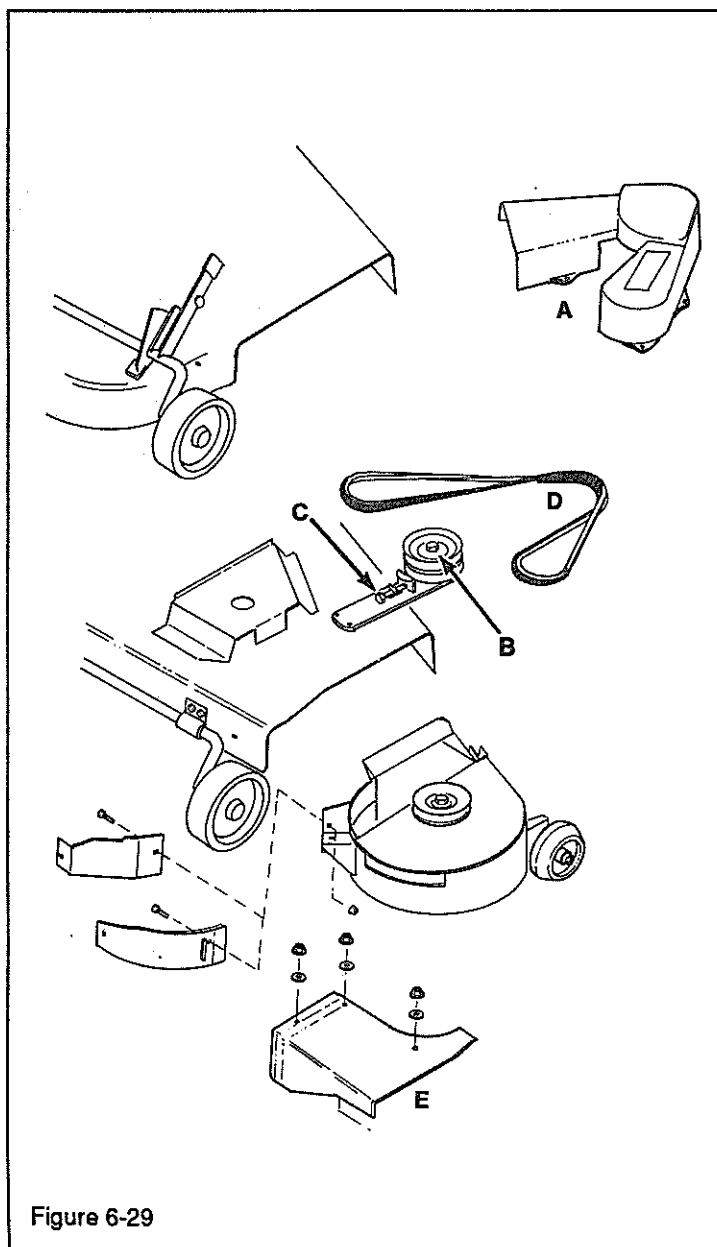
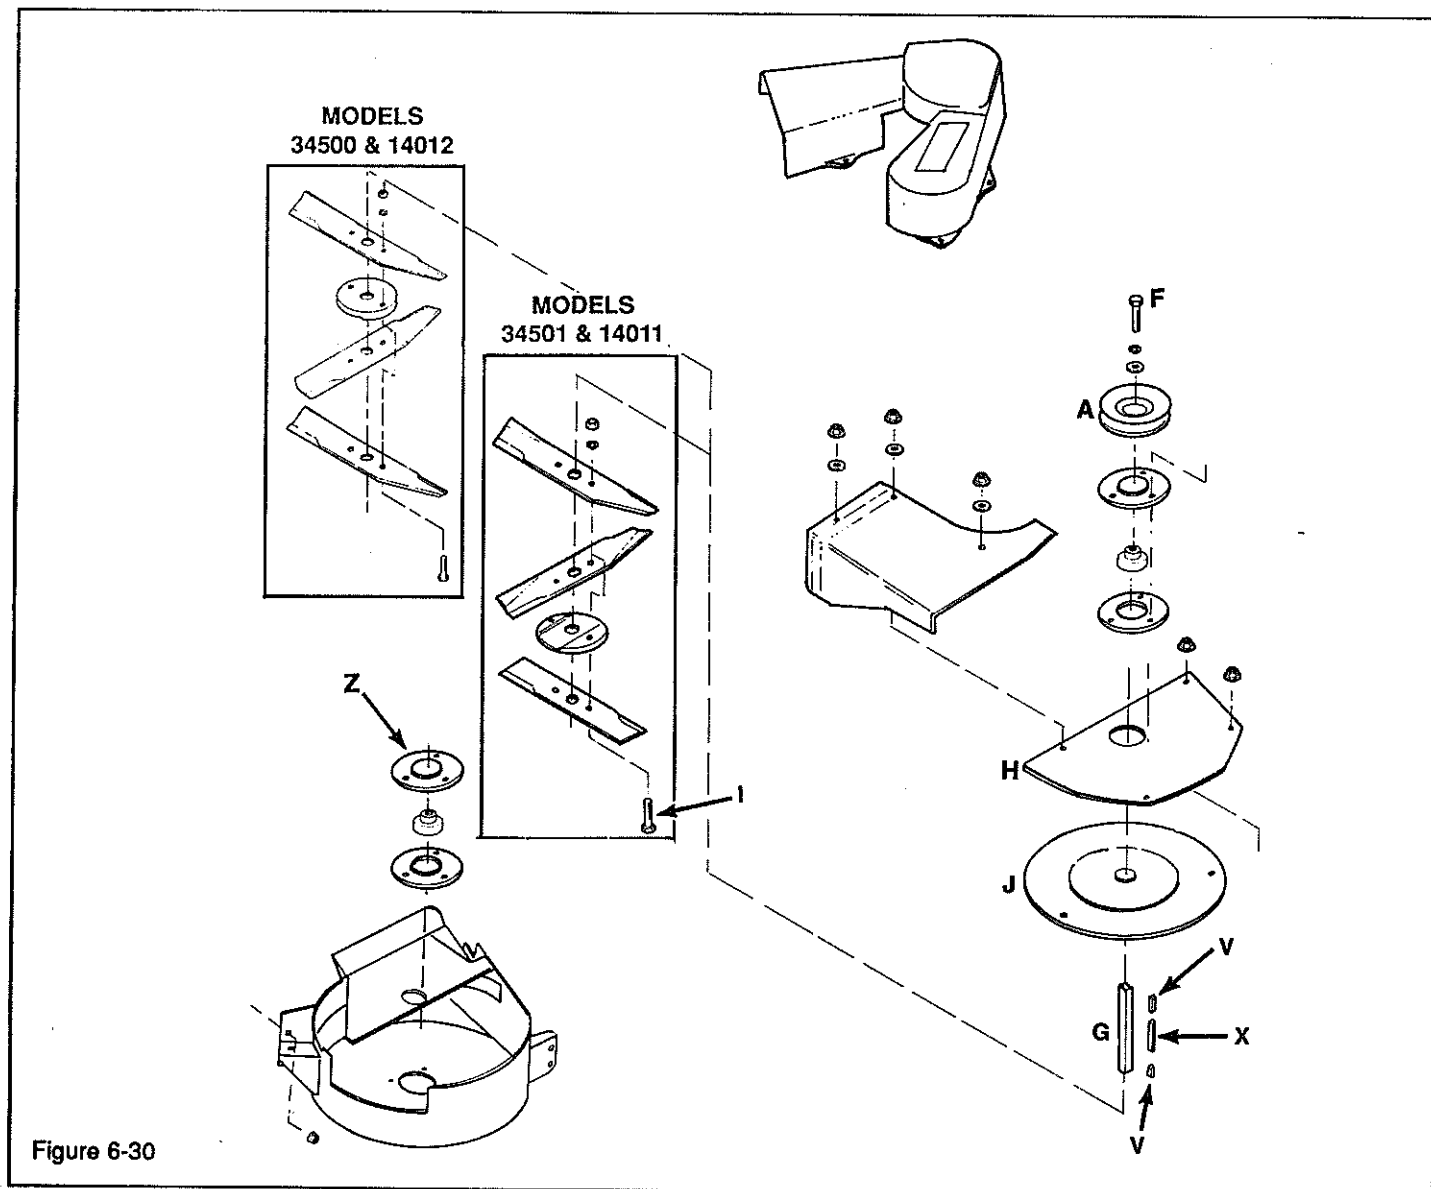
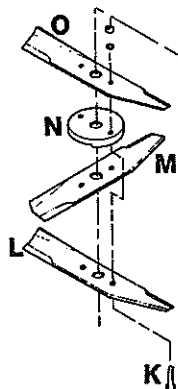

Figure 6-29
Figure 6-30
Figure 6-31
- Remove mounting screws from belt cover (A, Figure 6-29). Remove belt cover.
- Loosen cap screw (B) located on dual idlers.
- Loosen adjustment bolt (C).
- Remove attachment belt (D) from drive sheave.
- Remove discharge deflector (E).
- Remove cap screw (F, Figure 6-30), lock washer, flat washer and drive sheave from shaft (G).
- Remove housing cover (H).
- Remove capscrew (I) and washers at the bottom of the shaft. Pull shaft from attachment. Keep track of installation hardware.
- Remove fan assembly (J) from housing.
- BLADE DISASSEMBLY: To disassemble the blade assembly, Remove screws (K, Figure 6-31) or (P, Figure 6-32) and adjoining lock washers and lock nuts.
- a. **BLADE RE-ASSEMBLY:** If the blades must be reassembled, do as shown in Figure 6-31 OR Figure 6-29. Proper blade position is critical to performance and safety.
#### 1. BLADE ASSEMBLY FOR 36" DECKS (MODELS 34500 AND 14012), FIGURE 6-31:
- a. Insert screws (K, Figure 6-31) upward through 1 of the blades (L).
- b. Place 2nd blade (M) in the notch of blade hub (N). Notch in blade hub must face down. Place blade (M) with blade hub (N) on blade (L). Insert screws (K) through blade hub.
- c. Place 3rd blade (O) on top of blade hub and secure with screws (K), lock washer and nut. Tighten hardware.
2 of the 3 blades are lift blades. Position lift blades with bent corners facing up. **Place flat blade on bottom of blade assembly.** See Figure 6-29.
- Loosen cap screw ( B, Figure 6-29) on top of dual idlers.
- Make adjustment at adjustment bolt (C).
- Re-tighten cap screw (B).